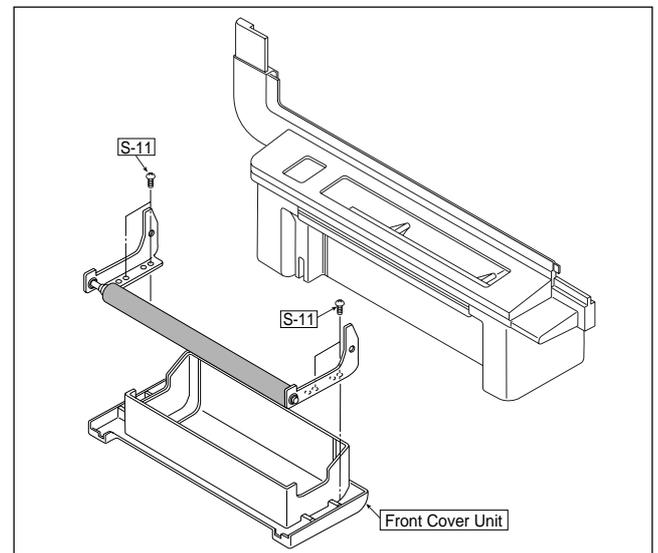

Fig. 13
3. Remove the "S-11" screws as shown in Figure 13 and remove the Front Cover Unit. (Tightening torque :  $8 \pm 2.4 \text{kgfcm}$ )